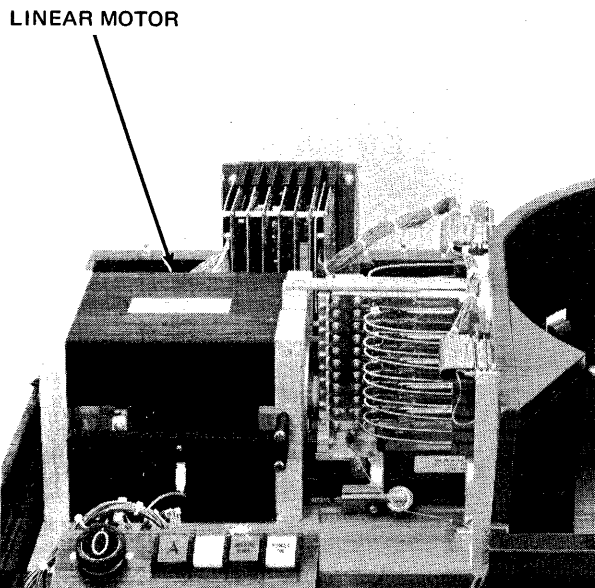

Figure 5-49. Linear Motor
- f. Remove motor from deck plate by grasping motor firmly and securely (see Figure 5-49).